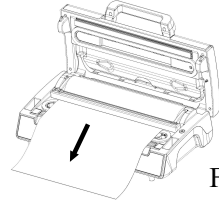

Fig.3
3. Pull out the bag to the suitable length you want - **Fig.3**